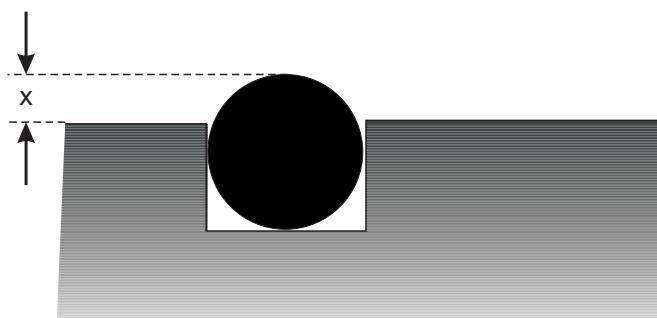

Fig. 7-25
- 5 Make sure that the ring protrudes above the groove (relative to the sealing surface) by a uniform amount, see Fig. 7-25, ▶ 234. Depending on the thickness of the ring, the values are as follows: